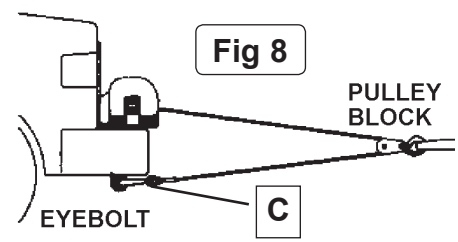

Fig 8
**WARNING!** When using a pulley, ensure the hook anchorage point (fig 8.C) will be capable of withstanding loads greater than the capacity of the winch.